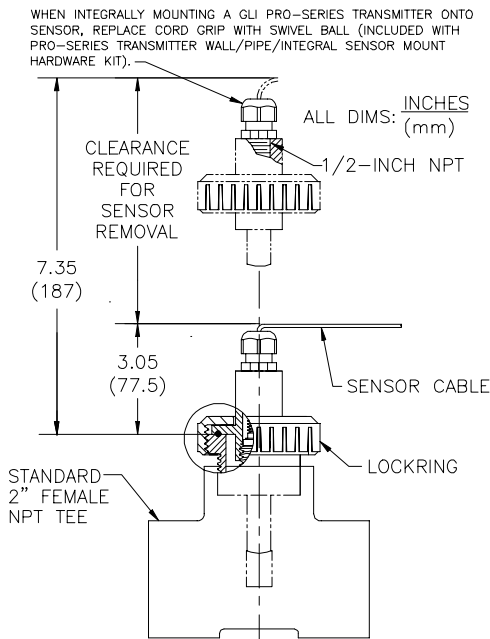

FIGURE 2-2 Tee Mounting Details
2. Apply Teflon tape to the connection of the special short nipple of the GLI union-mount adapter and pipe tee (or weldolet or pipe saddle) to avoid leaks. (Pipe sealant with Teflon, Locktite No. 59321 or equivalent, may not provide adequate sealing at higher solution temperatures). Fasten the short nipple into the 2-inch NPT pipe tee (or weldolet or pipe saddle). Figures 2-2 and 2-3 respectively show pipe tee and flange mounting details.